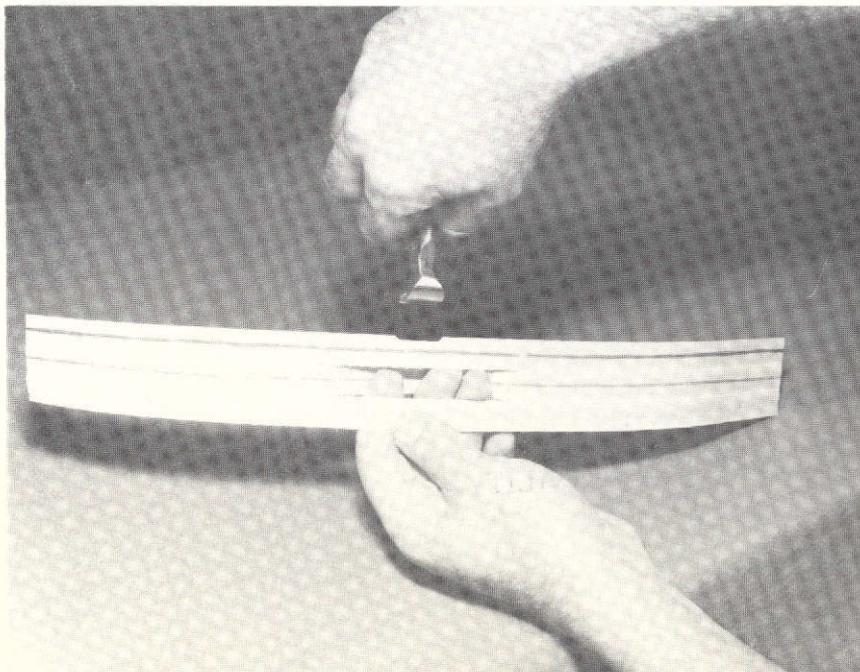

Figure 10. Notching Edge Insulation for Crimp
2. With a pocket knife or end cutters remove the insulation on one edge of each conductor for crimp-on connection (see Figure 10).